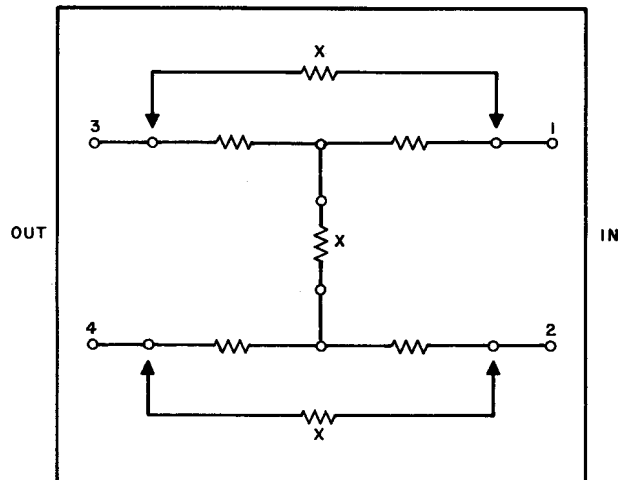

Fig. 1 — IC Pad
1.08 If the conference circuit has not previously been put into service, the 1C pad in the VOLCAS "transmit in" leg shall be strapped in accordance with 2.01. (See Fig. 1.)
**2.01** The IC pad in the “transmit in” leg of branch No. 1 (VOLCAS branch) shall have an 89BJ resistor installed of such value that with a normal transmit level from the switchboard the input level to the associated voice-frequency amplifier shall be  $-16$  dbm as measured across terminals 3 and 4 of the pad. (See Fig. 1.) The normal transmit level from the switchboard is  $-2$  dbm.